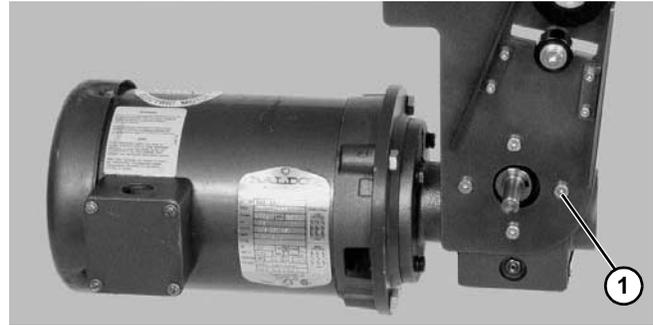

Figure 36
4. Remove four (4) gear reducer mounting screws (Figure 36, item 1). Remove gear reducer and gearmotor assembly.